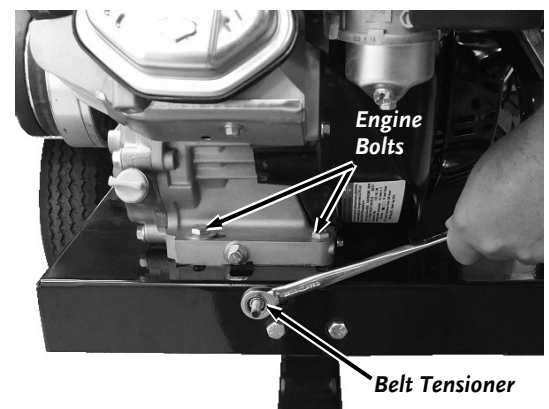

Figure 43
4. Loosen the four Engine Bolts (two on the left side and two on the right side) using two 9/16" Wrenches (**Figure 43**).
7. If the measurement is not correct, loosen the Engine Bolts and tighten or loosen the Adjusting Nut as needed (**Figure 43**).